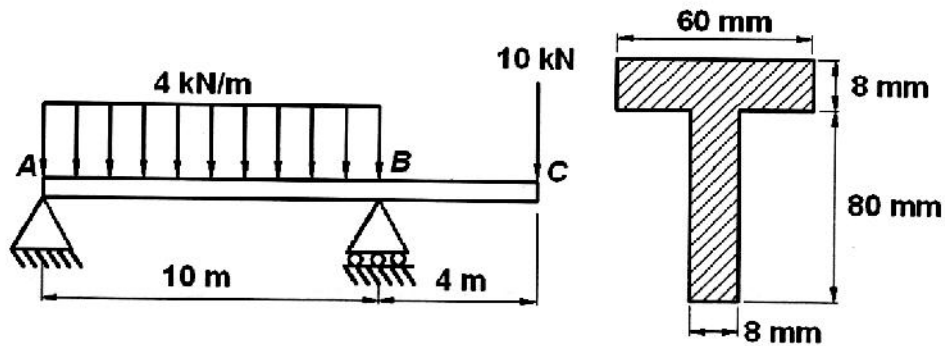

Fig. Q3
- (a) For beam loaded as shown in Fig. Q3, draw the complete shear force and bending moment diagrams.
- (b) Considering the beam shown in Fig. Q3 has the T-shaped cross section as shown in the figure, determine the values and locations of the maximum tensile and compressive bending stresses.